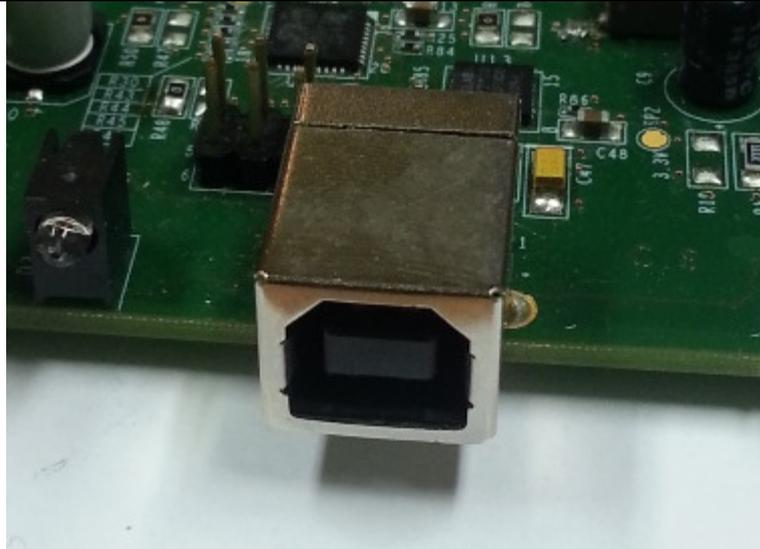

Figure 8: Isolated USB Interface
4. Isolated USB Interface (see Figure 8)